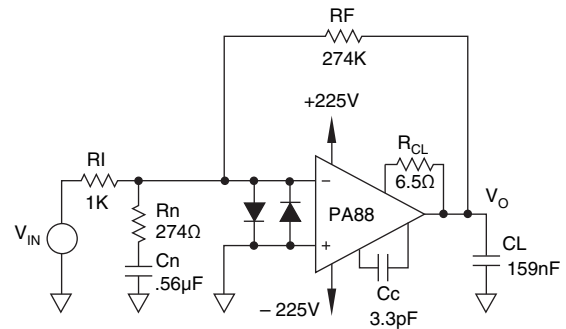
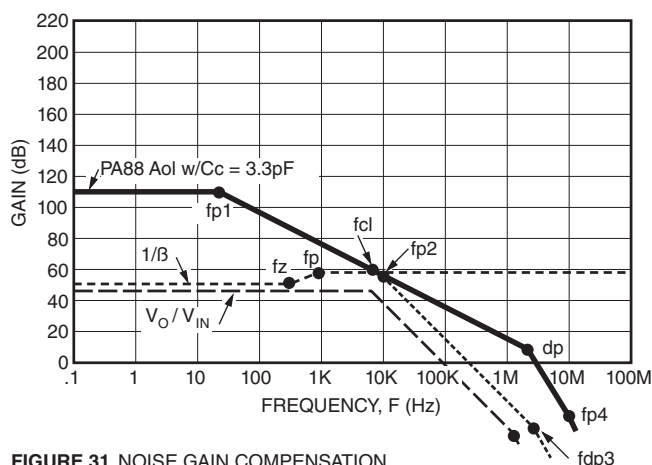
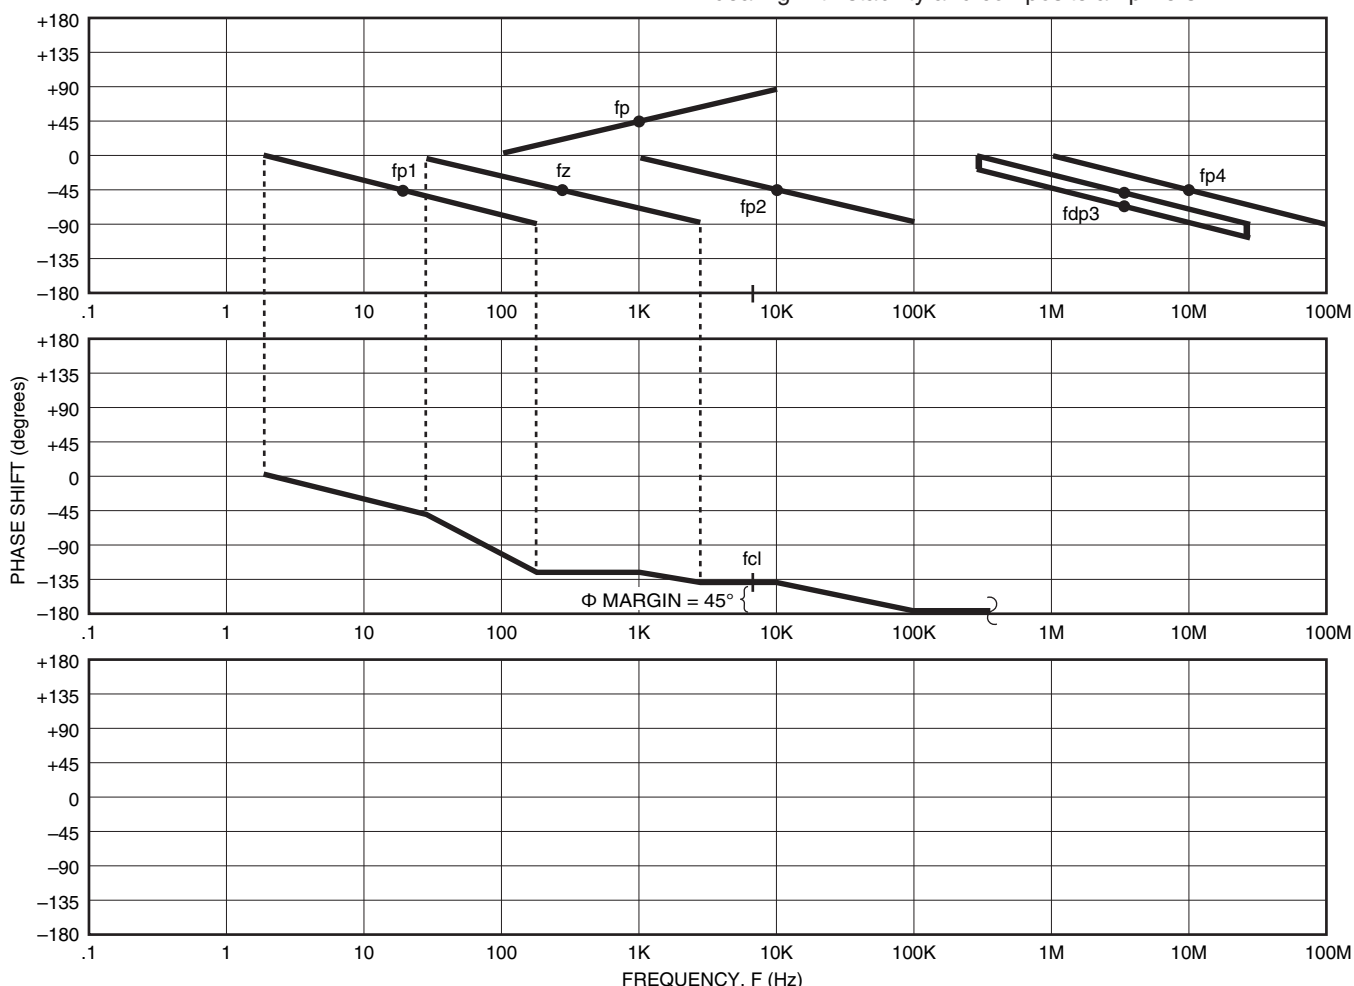

FIGURE 30. NOISE GAIN COMPENSATION FOR CL
FIGURE 31. NOISE GAIN COMPENSATION
FIGURE 32. NOISE GAIN COMPENSATION OPEN LOOP PHASE PLOT FOR STABILITY
Figure 30 illustrates a circuit utilizing noise gain compensation for stability when driving a capacitive load. Figure 31 is our magnitude plot to work with for stability.
STEP 1: Modify the PA88 Aol due to CL. Here we use the output impedance number for the PA88 of $R_o = 100$ ohms. The higher frequency poles of the unmodified PA88 Aol must be added into the modified Aol as shown in Figure 31.
STEP 4: Plot open loop phase plot as in Figure 32 from the information given in Figure 31. We see from this plot we have 45 degrees of phase margin.